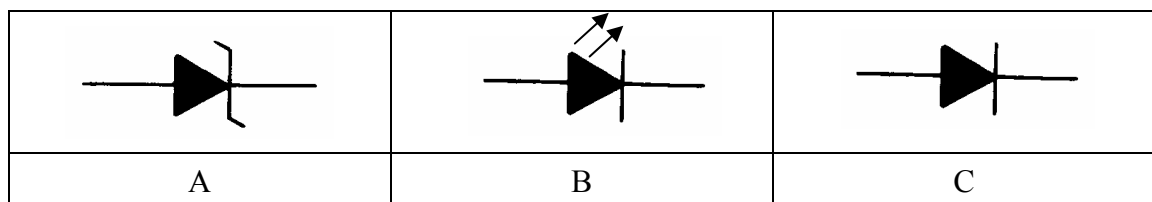

Figure 3
8. Figure 3 shows three symbols of diodes.